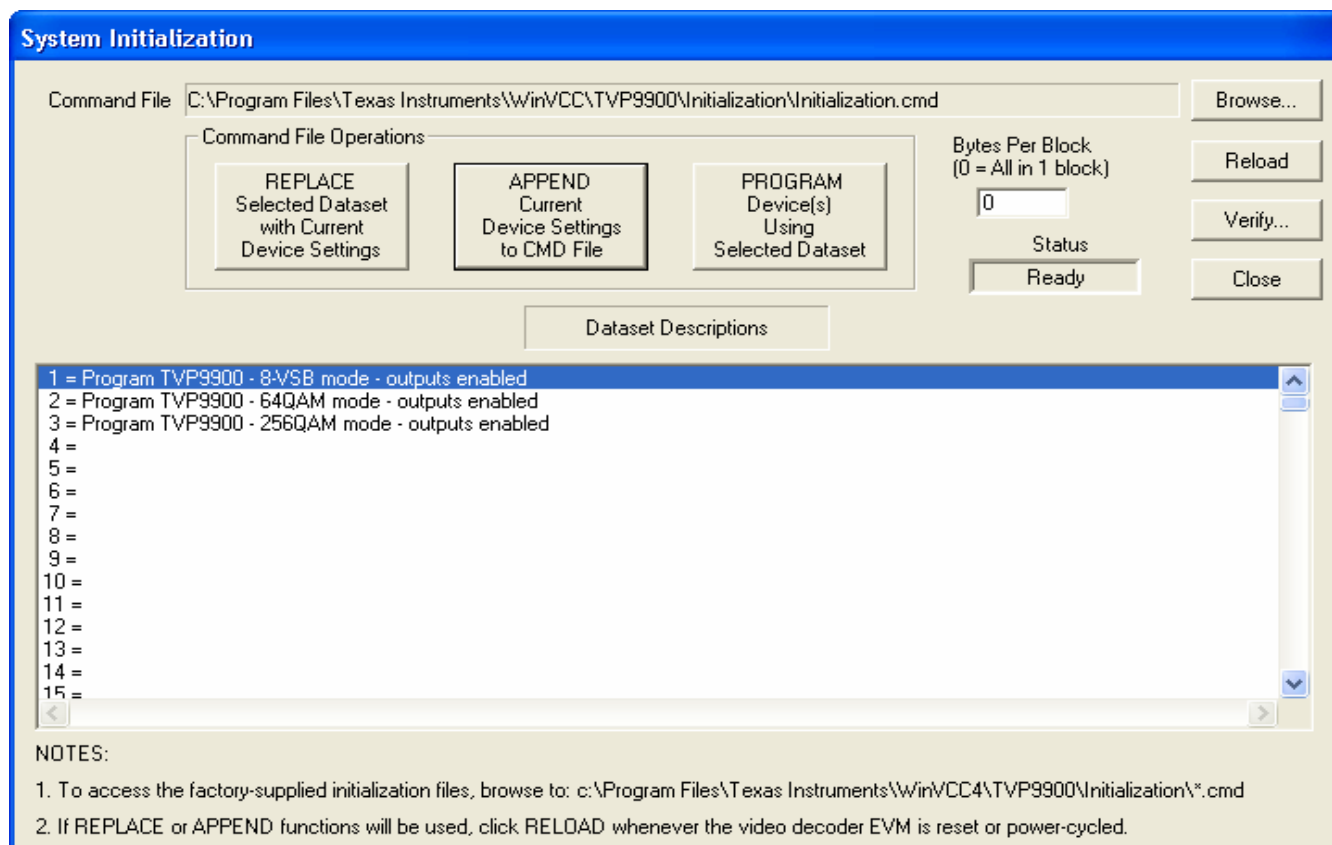

Figure 3. WinVCC – System Initialization
6. In the System Initialization Window, shown in Figure 3, click the “Program TVP9900 - 8-VSB mode - outputs enabled” dataset in the window and then click the PROGRAM Device(s) Using Selected Dataset button to initialize the TVP9900EVM for 8-VSB mode. The 64QAM mode and 256QAM mode can be set up by using the other datasets in this command file.